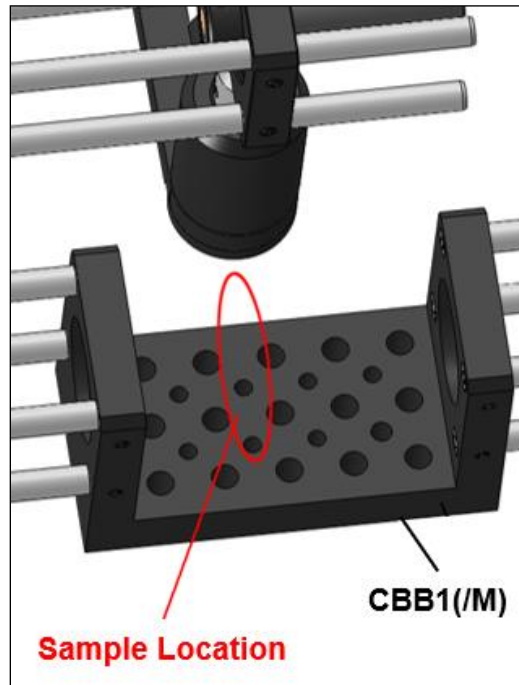

Figure 177 Sample Location
- 4) The system is now ready to be used in applications. Experimental samples may be placed into the CBB1(/M) mount midway between the CP33(/M) and CXY1 plates as shown below in Figure 177. Adjusting the singular values can greatly impact the performance of a system and the user should include adjustments to the ranges in optimizing a system. To start, for a BMC mirror try setting the Lower Threshold to 2 and the Upper Threshold to 55 and for the DMH/DMP start with a Lower Threshold of 1 and the Upper Threshold of 8.